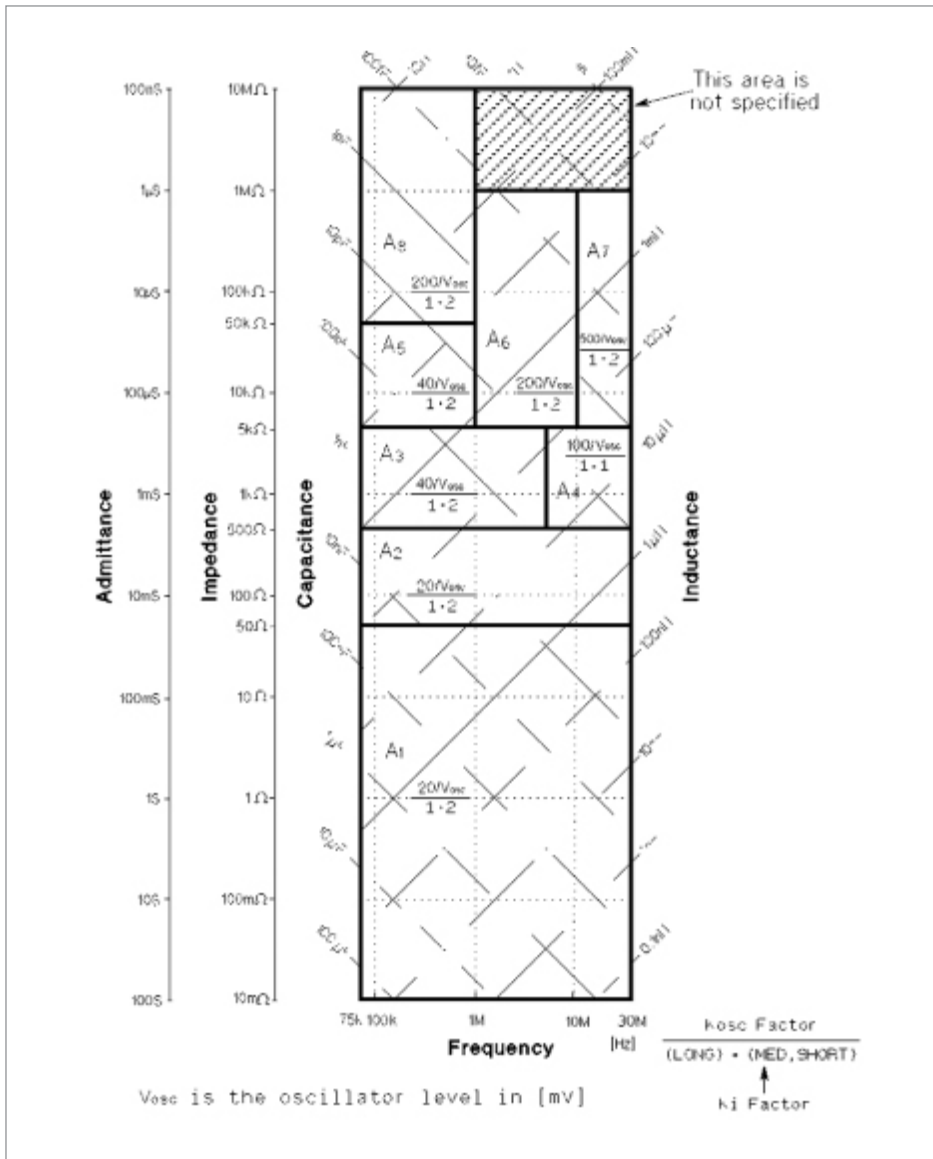
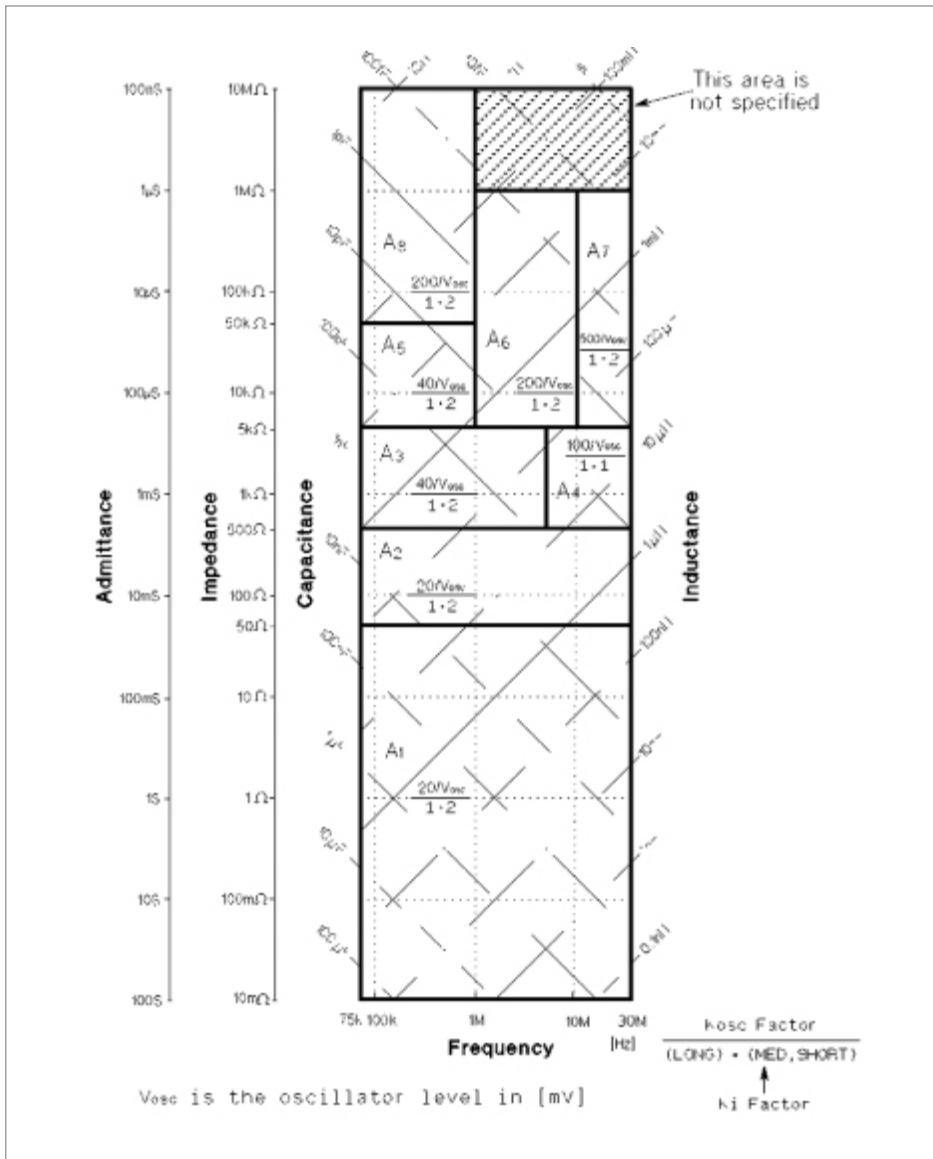

Figure 1-3. Accuracy equations,  $K_i$  factor, and  $K_{osc}$  factor (test signal level  $\leq 1 V_{rms}$ )
Figure 1-4. Accuracy equations and Ki factor (test signal level > 1 Vrms)
$A_n$  = Basic accuracy equation given from the  $A_1$  to  $A_{16}$  shown in Table 1-1. The applicable frequency range and impedance range of equations  $A_1$  to  $A_{16}$  are shown in Figure 1-3 and Figure 1-4. (Refer to *Basic Accuracy Equations* on page 7.)
1. Determine  $A_n$  equation from Figure 1-3 or Figure 1-4. In both charts, boundary line belongs to the better accuracy area.
When the oscillator level is  $\leq 1 V_{rms}$ , determine  $A_n$  to be applied, value of  $K_j$  and value of  $K_{osc}$  from the Figure 1-3. If the determined  $K_{osc} \leq 1$ , then round up  $K_{osc}$  to 1.
When the oscillator level is  $> 1 V_{rms}$ , determine  $A_n$  to be applied and value of  $K_j$  from the Figure 1-4.
3. Choose an accuracy chart from Figure 1-3 and Figure 1-4. The oscillator level is 1 Vrms, then Figure 1-3 is chosen for this measurement.
4. Find the frequency point of  $f_m$  (25.2 MHz) along the X axis in Figure 1-3. Both axes are in log format. Interpolation may be required.
5. Find the impedance point of  $Z_m$  (35 Ω) along the Y axis in Figure 1-3 determined in step 2. Both axes are in log format. Interpolation may be required.